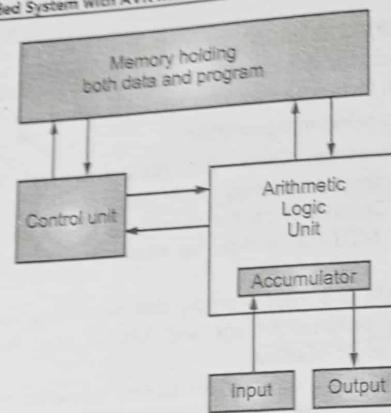

Fig. 1.3: The Von-Neumann or Stored program architecture
- Von-Neumann architecture is composed of three distinct components: a central processing unit (CPU), memory and input/output (I/O) interfaces. Fig. 1.3 represents one of several possible ways of interconnecting these components.
- Fig. 1.3 shows the essential features of the Von-Neumann or stored-program architecture. It basically consists of memory, control unit, input/output devices and buses to carry the data and program.